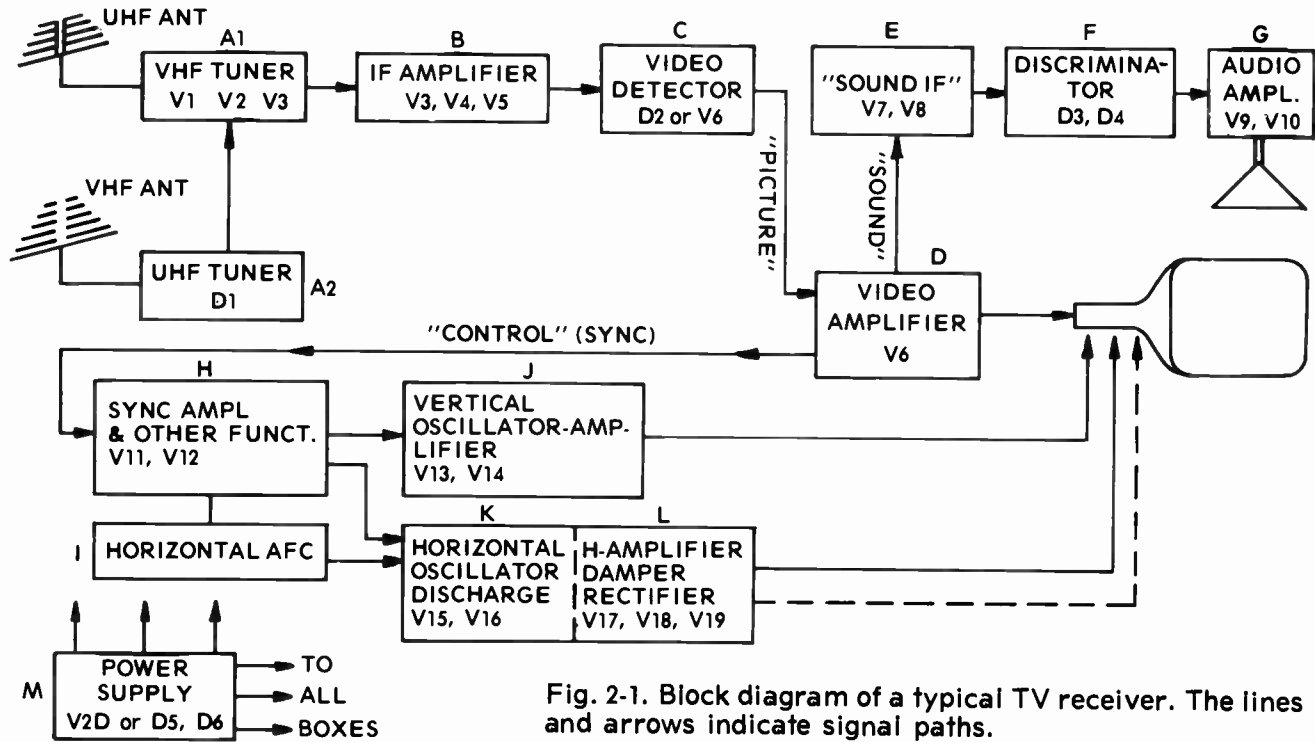

Fig. 2-1. Block diagram of a typical TV receiver. The lines and arrows indicate signal paths.
Fig. 2-1 is a block diagram with each of the major functions of the receiver represented by a box. We shall now examine each of these "boxes" primarily from the service viewpoint.
We know that the RF amplifier is the first tube of the tuner. It, as well as the amplifiers to be described here, has similar functions—to amplify a small TV signal to a larger one. The difference between the two types of amplifiers is in the degree and level of amplification. The term IF means “intermediate frequency” and simply refers to amplifiers after the tuner (Block B, Fig. 2-1). When IF tubes malfunction, the severity of the snow resulting is much less, but they still behave generally as “gates which are usually open and more or less shut during a malfunction.
There are, however, some noteworthy differences from the beginner's viewpoint. First, because the signal levels are so much greater here, the chances of a total absence of the picture and sound are somewhat less; a dim or “thin” picture will get through more easily. Second, because of the use made of IF amplifiers (some common to both sound and picture, others are strictly for sound) a failure in one IF amplifier may cause a loss of sound without affecting the picture. Thirdly, the physical configuration is quite different. While the RF amplifier is almost universally located on a separate, integral unit (the tuner), the IF amplifiers very generally are located in some sort of string fashion (see Fig. 2-1) on the main chassis of the TV set.
In Fig. 2-1 the paths traveled by the picture and sound from the antenna to the picture tube and speaker are shown by lines and arrows. It can be seen that for VHF (Channels 2 through 13) the signal path is from the antenna, via the VHF
As was mentioned previously, a TV receiver is really a two-in-one device, combining a picture (AM) receiver with a sound (FM) receiver. As such, many components are common to both. These shall now be identified and described. Box B in Fig. 2-1 is a multi-amplifier system for the combined video and audio signals. Although these signals are of comparatively greater strength than those entering the "front end" (A1 or A2), a failure in any stage of this amplifying system can be just as catastrophic for either picture or sound.
In the video detector stage (Box C, Fig. 2-1), although relatively simple and consisting of but one diode (or one tube) in most cases, a number of functions occur. The semiconductor diode (marked D1 or D2 on the tube layout chart) converts the video IF signal to a form suitable for application to the picture tube (from video IF to video). Also, the combined picture and sound signals coming from the common IF amplifiers V3-V5 are separated. A failure (rather rare) of this diode stops both picture and sound signals. (In some receivers the sound is "picked off" before it reaches the video detector, so a failure of the diode in such sets would not affect the sound.) We shall discuss this again later under Troubleshooting.
The video amplifier tube (seldom more than one) in Box C (V6, Fig. 2-1) is a video (picture signal) amplifier, building up the picture signal to the level required for application to the picture tube. In addition, this tube also amplifies and transmits the sound IF signal to Box E in many receivers and the
various picture control (sync) pulses to Box F. Should this tube fail, all three components would be affected, as in the case of the defective diode in the same box. In case of tube deterioration, due to old age, etc. the effects may not be catastrophic; i.e., the picture and sound may still be there, but on degraded levels. In such a case, the picture control (sync) pulses may be inadequate to keep the image from rolling and-tearing. In normal operation, the picture signal goes from V6 to the picture tube, as shown in Fig. 2-1.
The sound IF amplifier system (Box E, Fig. 2-1), including V7 and V8, is functionally very similar to the IF amplifiers in Box B, except that only sound signals (FM) exist in this unit. Sometimes the amplifier consists of but one stage (and one tube), depending on the design of the particular manufacturer. Another similarity to the IF amplifier in Box B is the fact that the sound IF amplifier is also followed by a detector—an FM sound detector, often called a discriminator because it discriminates against noise and similar interference. The discriminator (Box F, Fig. 2-1) may be either a tube or a pair of semiconductor diodes, depending on the particular make of the TV set, and a transformer or coil. Failure of the discriminator tube (or diode) will, of course, cause a complete loss of sound.
Beginning at the discriminator output and all the way to the speaker, the signal is known as audio for it consists only of audio frequencies. Where the discriminator consists of a pair of semiconductors, the audio amplifier in Box G (Fig. 2-1) may consist of two tubes. In some sets, a multifunction tube is used as a discriminator-audio amplifier combination, followed by only a single tube called the final (or output) audio amplifier in Box G. In either case, the final audio amplifier connects (via an output transformer) to the speaker.
The sync circuits (Box H, Fig. 2-1) contain two or three tubes, some of them being sections of dual types. The purpose of the sync section is to provide the proper timing and "registration" of the image bits on the screen. As stated earlier, this timing-synchronizing information is transmitted by the TV station as part of the picture signal. There are two main types of pulses here, those responsible for the proper starting time of each line of the left side of the screen (horizontal sync pulses) and those controlling the exact start of the picture at the upper left corner of the tube (vertical sync pulses).
complicated by a systems known as the vertical sweep, consisting of a vertical oscillator and a vertical amplifier (tubes V8 and V9 in Box J. Fig. 2-1). The two tubes in the vertical system follow each other in sequence (in series), so that either one, if defective, will cause a failure in the downward pull of the beam on the screen. The first tube, V8, is called the vertical oscillator.
While the sync circuits are responsible for the precise timing of the picture reproduction process, the timing of horizontal synchronization is more severe and more rigorous than the vertical. It is for this purpose that an additional safeguard is provided in the form of automatic frequency control (Box I, Fig. 2-1). Briefly, this is a self-correcting system using both the incoming sync pulse and a "feedback system" in the receiver to maintain horizontal synchronization at all times.
The primary purpose of the horizontal deflection system (Box K, Fig. 2-1) is for the left-right movement of the beam. For this reason, we shall first describe this function only, although, as we shall see later, this deflection system has a most important secondary function.
The HV cage (Box L, Fig. 2-1) of any TV set is physically distinct and separated from the open part of the chassis primarily for reasons of safety. It is here that the extremely high potential (25,000 volts in many color TV sets) for the picture tube is developed. While it is true (as has been argued) that the energy behind this extra high voltage is too feeble to be lethal, the danger from this source is nonetheless very grave. Even secondary effects, such as the reaction to the shock, a resultant fall, etc., can be extremely serious. The caution labels in the vicinity of the high-voltage cage have their purpose, but a clear understanding of what is involved is even more valuable.
The power supply (Box M, Fig. 2-1) is rather simple yet a very important part of the TV set. It supplies power to all the tubes or transistors in the set. A failure here is certain to disable the complete TV set, except, in case of the tubes, it may not prevent them from lighting. The tube, V20, is called a rectifier, and its function is to convert AC to DC, as required by the various tubes and transistors. Sometimes two tubes, side-by-side, serve the function, in which case a failure of one may not completely disable the set. However, since the remaining tube is probably overloaded, it is most prudent to check both and replace both even if one seems to function. Some basic precautions are to be observed when handling rectifiers and tubes, and these do's and don'ts are detailed under Troubleshooting.
Generally speaking, all the TV circuits up to and including the video detector-amplifier (Boxes A through F in Fig. 2-1) are common to all signals—sound, black-and-white TV, and color.